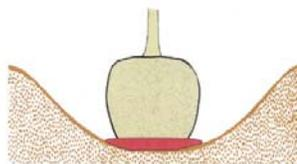

Figure 17. Stabilize the tree by firming a small ring of backfill soil around the base of the root ball.
- e) For stability, firm a shallow ring of soil around the bottom of the root ball. [Figure 17]